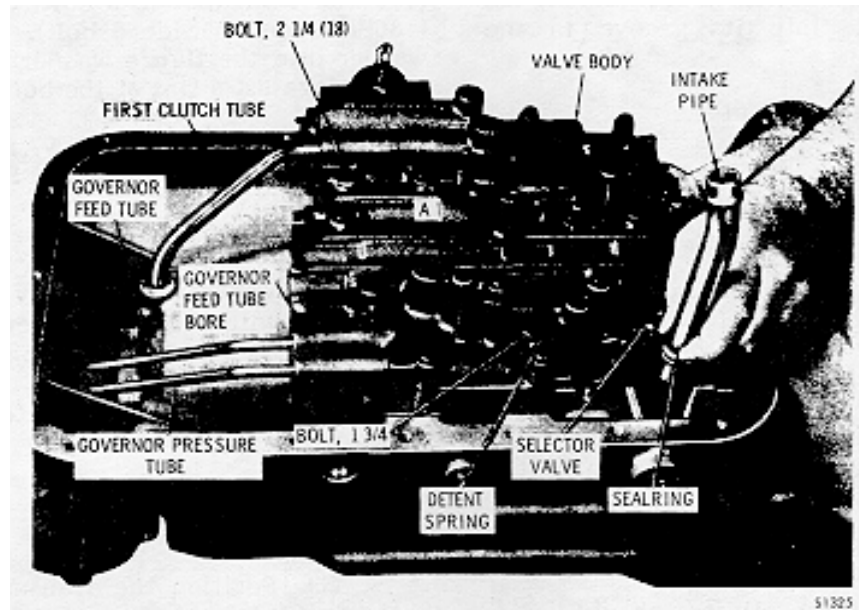

Fig. 7-31. Installing oil intake pipe
(4) Position the control valve body on the transmission housing in its approximate installed position (Fig. 7-31).
Inspect both ends of the governor feed tube. Some models contained a plastic oil screen located where the governor feed tube unites with the housing. This screen must be replaced with a wire screen and relocated in the governor feed tube bore (Fig. 7-31).
(6) Install the governor pressure tube (Fig. 7-31).
(7) Install first clutch tube (Fig. 7-31).
(8) Lift the valve body and swing the three tubes into proper position to enter their holes in the transmission case.
(9) Lower the valve body onto the case, while engaging the rear ends of the tubes in the case, and the selector valve on the selector lever (Fig. 7-31).
(10) Install the detent spring, with its roller over the selector lever, and its rear tab in the hole immediately behind the bolt hole (Fig. 7-31).
(11) Install a 1/4-20 x 1 3/4-inch bolt into the detent spring and valve body.
(12) Install eighteen valve body retaining bolts.
use eighteen 1/4-20 x 2 1/4-inch bolts (Fig. 7-31).
(13) install filter spacer 18 (B, foldout 9). Use valve body retaining bolts 'A' (Fig. 7-31) to retain the spacer.
(14) Shake the valve body slightly, and the ends of the bolts will start into the tapped holes in the transmission case.
(1) Install sealring onto the straighter end of the intake pipe (Fig. 7-31). Lubricate the sealring with oil-soluble grease.
(2) Install the intake pipe and sealring (Fig. 7-31).